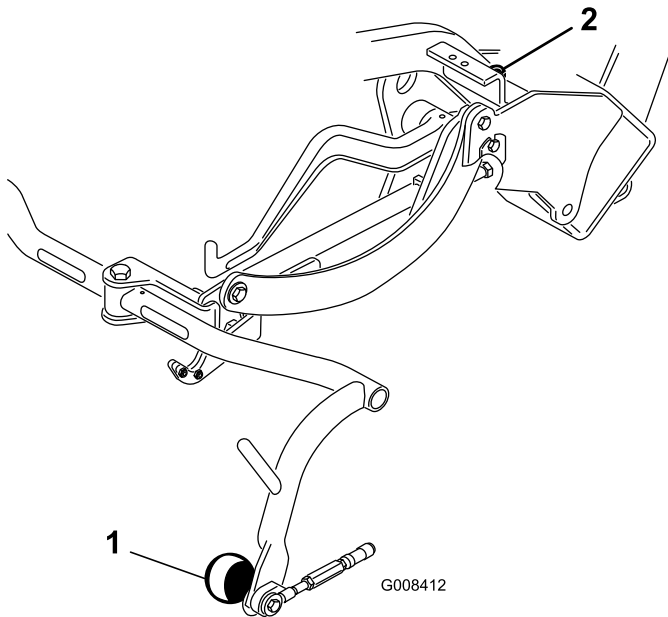

Figure 10
3. If an adjustment is required, loosen the jam nut on the carrier frame stop screw (Figure 10) and rotate the screw up or down to raise or lower the carrier frame. Tighten the jam nut after adjustment is attained.